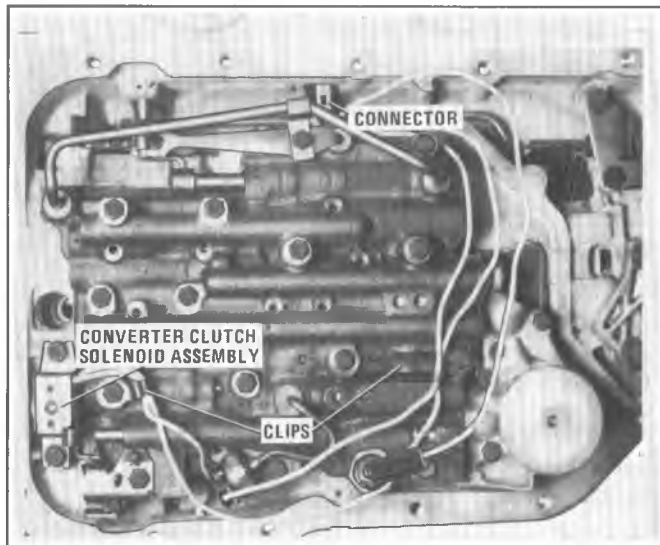

Figure 7A6-8 Removing Solenoid Wires and Pressure Switches
5. Withdraw electrical connector and "O" ring seal from case (Figure 7A6-9). Use a 19 mm (3/4") box wrench to compress the connector tangs.